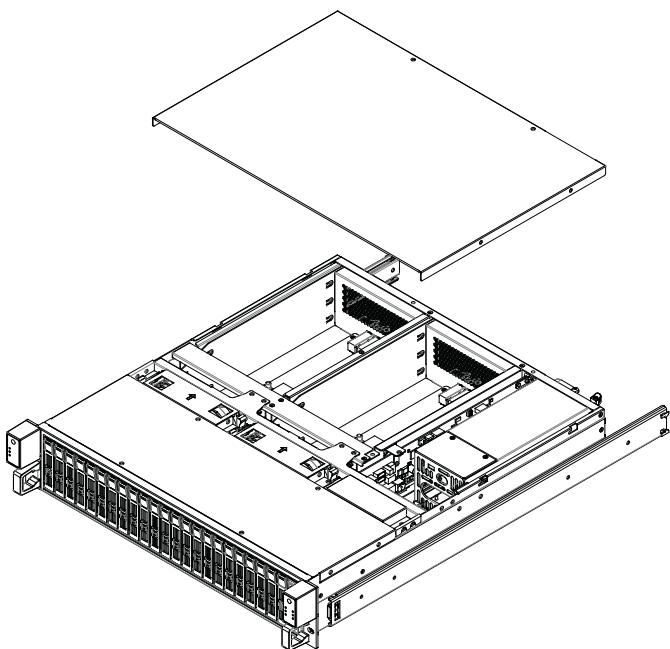

Figure 2.1 Rear top cover removal/ 移除后顶盖 / 移除後上蓋
2. Slide the rear top cover backwards and then lift upwards to remove it (see Figure 2.1).
2. 将顶盖向后拉出然后向上抬起。（如图 2.1 所示）